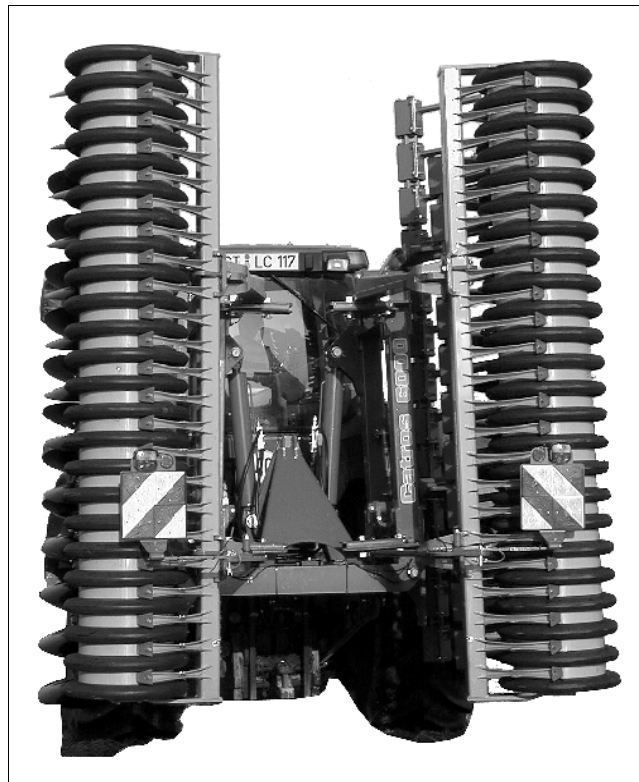

Fig. 11
- The transport width of 3 m should not be exceeded. Fold in roller segments. (Fig. 11)!
- Fold in machine wing (Fig. 11) and secure via the ball tap from unintended folding out!